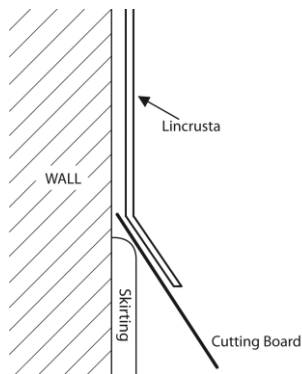

Fig 1.
8. To form lower edge, mark Lincrusta at each side, level with top of skirting or dado. Place cutting board behind Lincrusta leaning against wall, and cut between pencil marks using knife and straight edge. Repeat at top. See Fig 1.